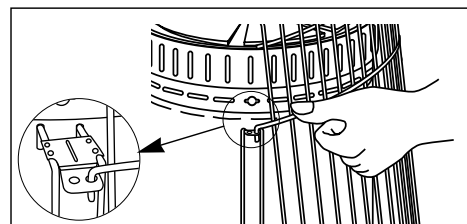
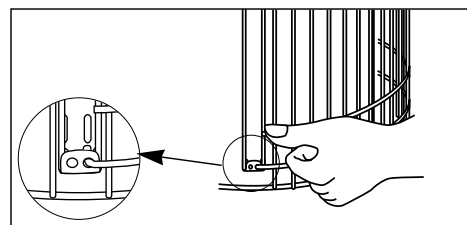

Fig.5A
Fig.5B
(Fig.5A and Fig.5B)
- Hang the upper portion of the front guard (notched to allow for the igniter door) on the Upper Grill brackets with the downward hooked grill rods. (Fig.5A)
- Snap the lower portion of the front guard into the holes in the Lower Grill brackets with the inward hooked grill rods. (Fig.5B)